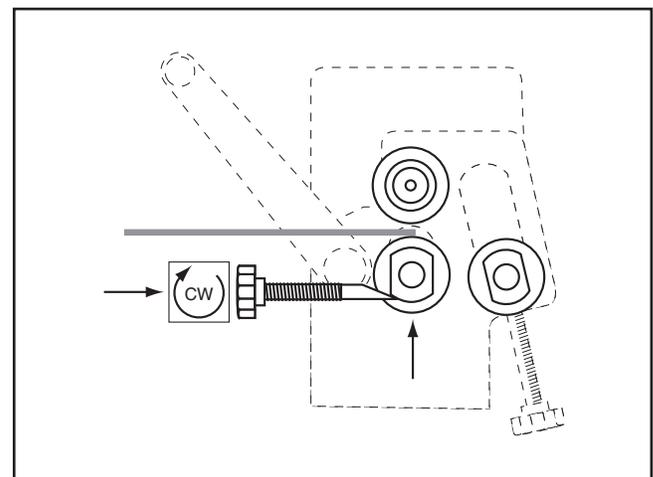

Figure 17. Raising lower roller.
- Place the workpiece between the upper and lower rollers, as shown in **Figure 17**. Turn the thickness adjust knobs to lift the lower roller until the workpiece is held snug between the upper and lower rollers. Be sure to turn the thickness adjust knobs equal amounts.